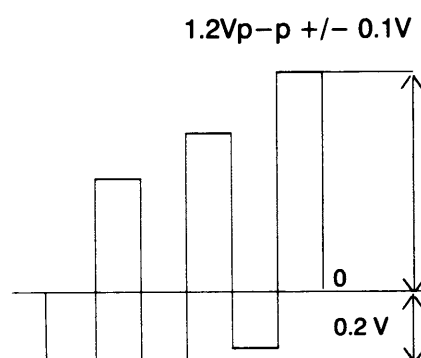

Fig.7.
1. Adjust the sub colour (**R607**) for $1.2V_{p-p} \pm 0.1V$ at **TPE15** as shown in Fig.7.